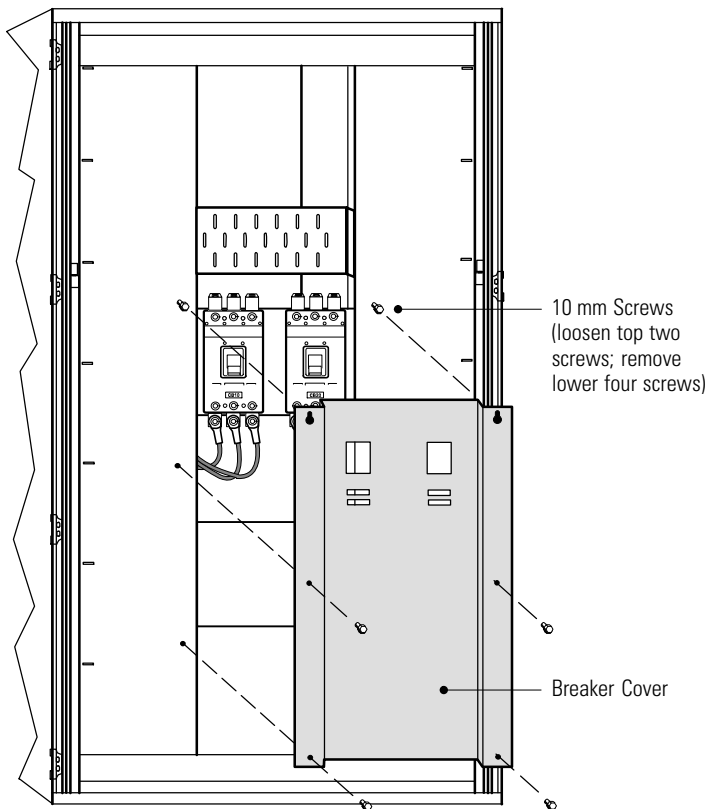

Figure 6. Removing the Breaker Cover (Dual 400A Main Input Breaker or Dual 600A Main Input Breaker Configuration Shown)
9. Remove the breaker cover (see Figure 6):